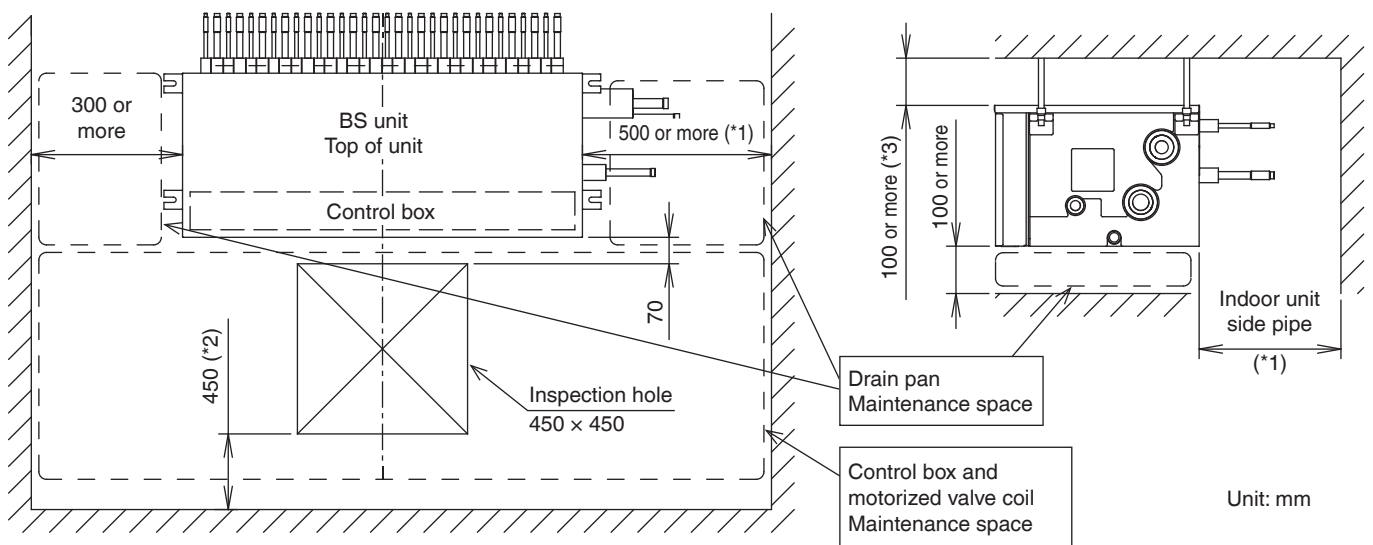

Fig. 1
- There must be adequate space in which to perform installation and service work (**Refer to Fig. 1**).